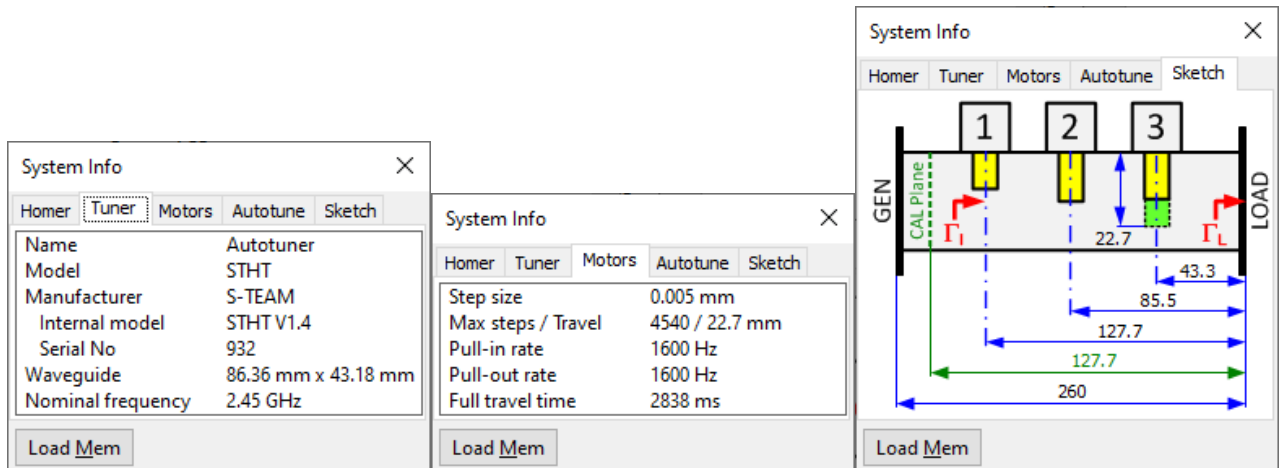

Fig. 1. Tuner, Motors, and Sketch pages of the **System Info** window of HoSim app.
2. Open the **System Info** window (Fig. 1) by clicking **View|System Info** menu item, or **Sys** toolbar button.
- Click the **DUT** tab to define type and value of the load reflection coefficient  $\Gamma_L = M \exp(j\varphi)$ . Please note that by default  $\Gamma_L$  refers to the Autotuner output flange (see the *Sketch* page of Fig. 1).
The values can be learned from the **Motors** page of the **System Info** window shown in Fig. 1 (take the lower of the *Pull-in rate* and *Pull-out rate* values for  $f_s$ ). The window also shows the maximum *Travel* distance (insertion depth)  $h_{\max}$ , which is linked with *Max steps* ( $n_{\max}$ ) value by